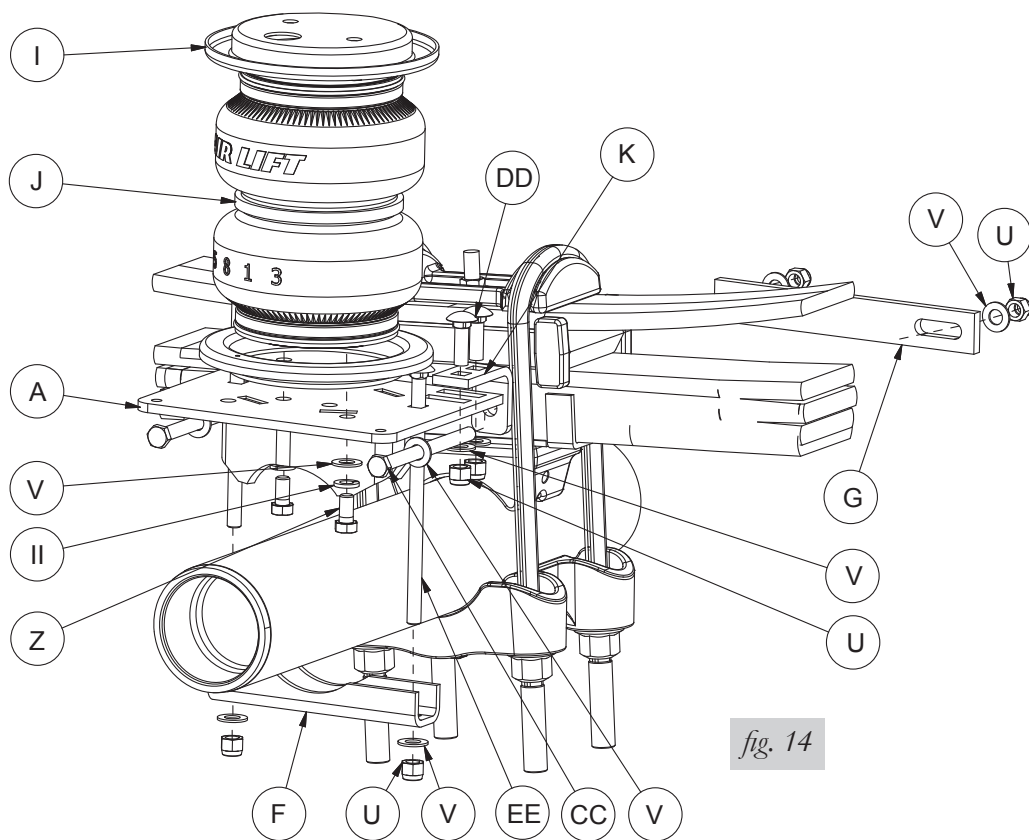

fig. 14
4. Using the long 3/8" bolt (CC) and flat washer (V) previously installed on the four hole locating bracket, insert them into the spring clamp bar (G) on the opposite side of the leaf spring assembly (Fig. 14). Cap with 3/8" flat washer (V) and nyloc nut (U). Leave loose at this time.
5. Insert a long carriage bolt (EE) through the remaining square hole in the lower bracket (forward of the axle) opposite of the one previously installed in the bellows assembly. Set the clamp bar (F) over the two carriage bolts and cap with two 3/8" flat washers (V) and two nyloc nuts (U).